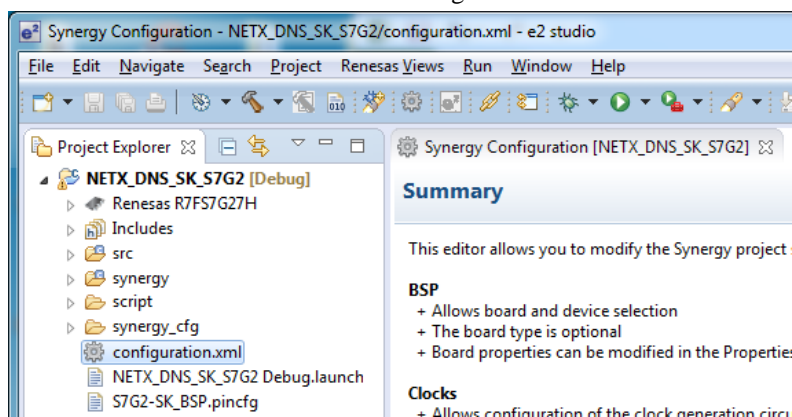

Figure 2.15 Synergy Configuration tabs
4. The project should resemble the folder structure shown in Figure 2.15.